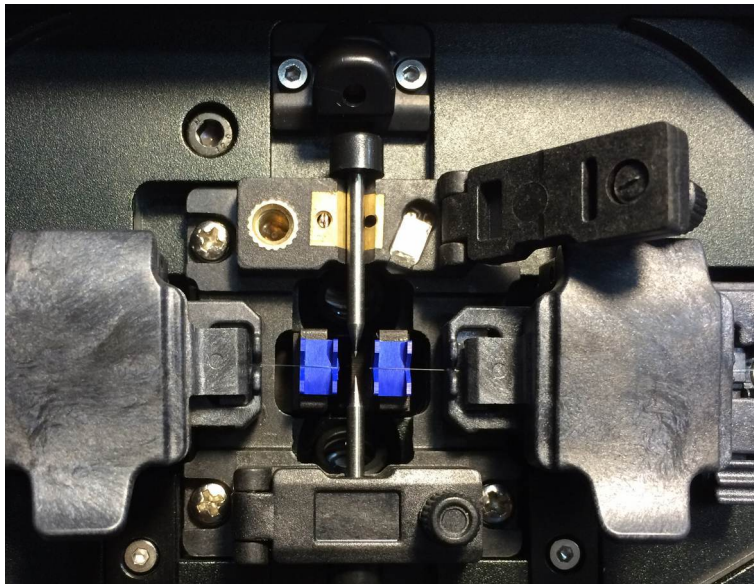

Fig 4-6 Electrode exchange
(1) Before cleaning the objective lenses, always turn off the splicer.
(2) Remove the used electrode as in Fig 4-6
(3) Clean the electrode and then place to the fusion splicer